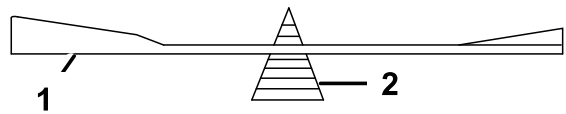

Figure 56
- Check the balance of the blade by putting it on a blade balancer (Figure 56).